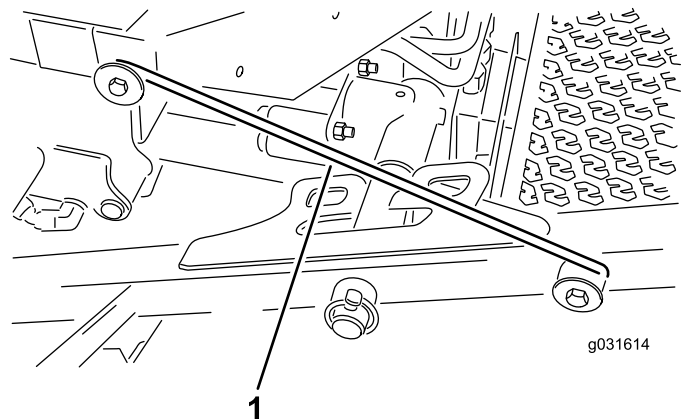

Figure 31
4. Release the latch rod from the front carrier-frame retainer (Figure 31).
5. Lift the outside of the front cutting units and place the latch over the frame pin mounted on the front of the operator's platform (Figure 31).